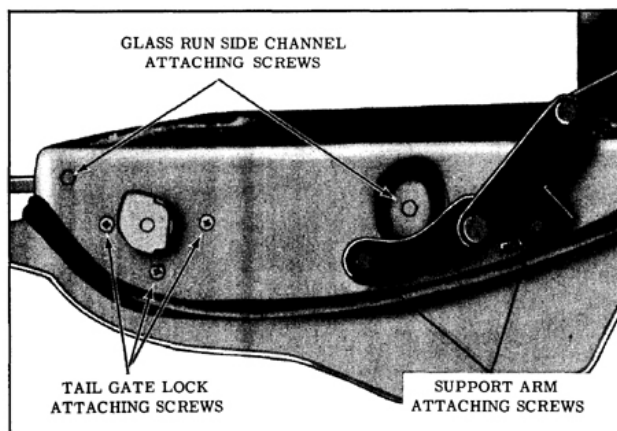

Fig. 16-218 Tailgate Lock and Support Arm
- Remove tailgate window glass run side channel attaching screws and remove channel from side of tailgate from which lock is being removed. (Fig. 16-218 and 16-220)